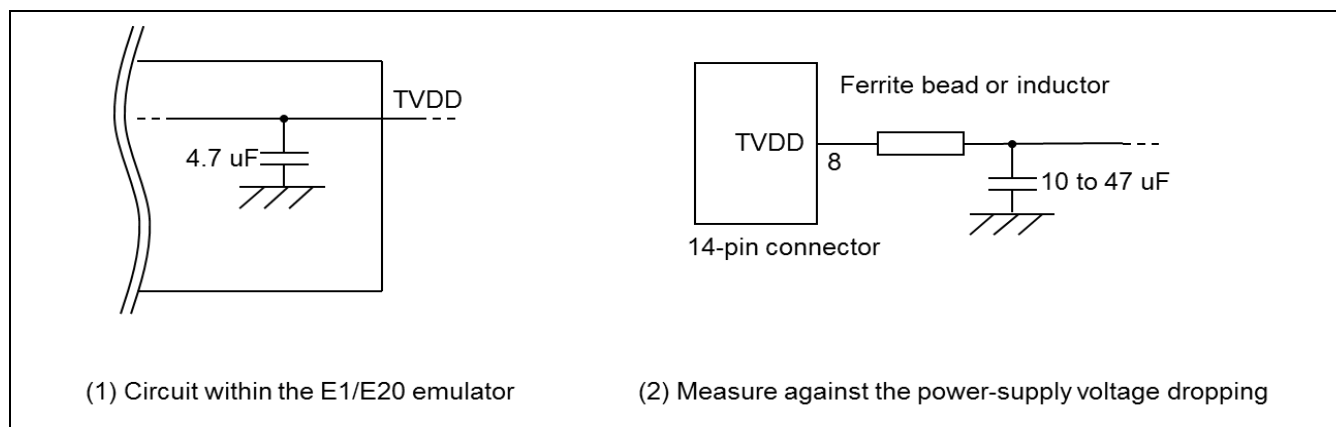

Figure 2-8 Circuit Configuration for Hot Plug-in
If there is a possibility you will be using hot plug-in connection, you will need to configure the circuit as shown below. Pin 8 of the E1 emulator is connected to a 4.7- μ F capacitor as shown in (1) in Figure 2-8, so hot plug-in connection of the emulator may lead to a momentary drop in the power-supply voltage on the user system. This might cause the MCU to be reset.
As shown in (2) in Figure 2-8, this effect can be reduced by placing a ferrite bead (or inductor) and relatively large capacitor with low equivalent series resistance near the TVDD line of the connector for connection of the emulator. However, this measure will not completely eliminate the voltage drop. Note that hot plug-in connection is only for use during debugging, and a separately sold hot plug-in adapter is necessary to use this function otherwise.